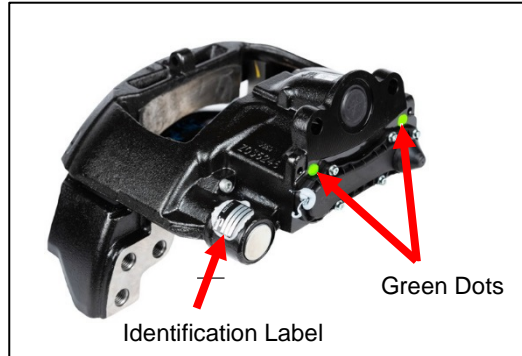

Figure 1: Locating Information on the Caliper
5. Inspect for the presence of a green dot in either location shown in **Figure 1**.
6. Inspect the identification label on the caliper. (Remove paint coating if necessary.) See **Figures 1, 2, and 3**.